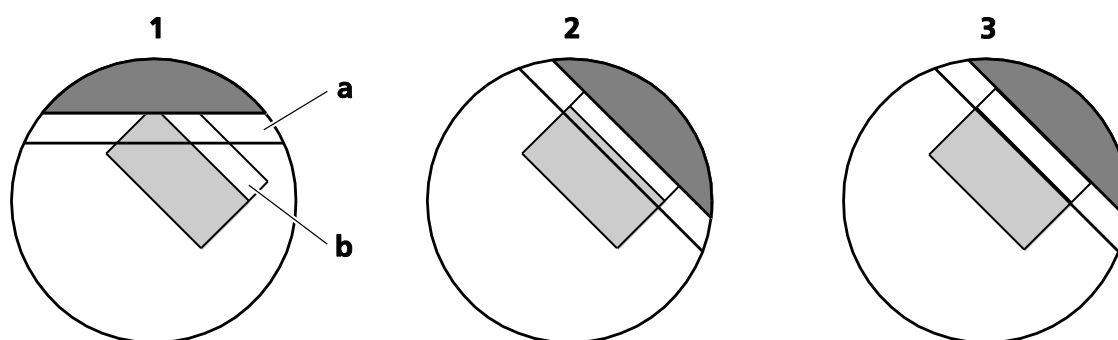

Fig. 4-12 Aligning of the Objective Zone Plate and the iHM Diaphragm
- Adjust the eye lens of the auxiliary microscope to bring the zone plate of the objective (Fig. 4-12/**1a**) and the iHMC diaphragm (Fig. 4-12/**1b**) in focus.
- Turn the ring of the iHMC objective until the zone plate is aligned parallel to iHMC diaphragm. (See Fig. 4-12/**2**.)
- Using the two centering keys, move the iHMC diaphragm until area **a** of the zone plate and area **b** of the iHMC diaphragm line up completely in middle position if possible (Fig. 4-12/**3**). In the example shown, the position of the contrast elements may appear rotated in relation to Fig. 4-12, depending on the relief impression orientation chosen.